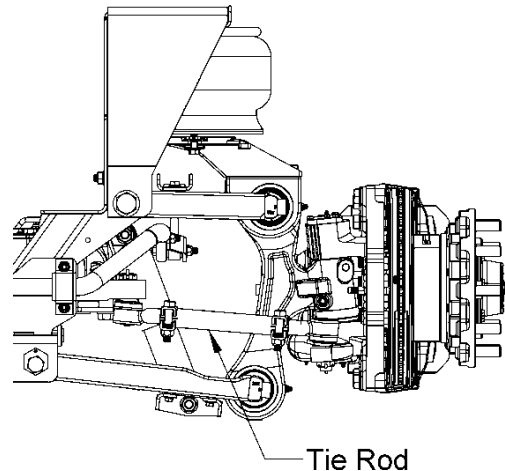

Figure 18 – Tie Rod Clamp Position
5. Tighten tie rod clamp nuts to **50-60 lb-ft** (See Torque Table). Refer to **Figure 18** for tie rod clamp position.